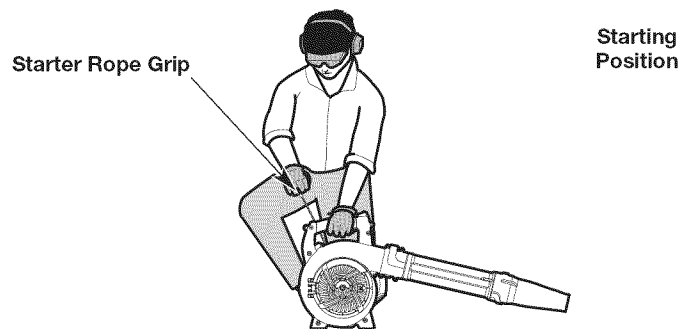

Fig. 8
**WARNING:** Avoid accidentally starting the unit. To avoid serious injury, the operator and the unit must be in a stable position when pulling the starter rope (Fig. 8).
6. **DO NOT** squeeze the throttle control. Crouch in the starting position (Fig. 8).
7. **DO NOT** squeeze the throttle control. Pull the starter rope with a controlled and steady motion **5 times** (Fig. 8).